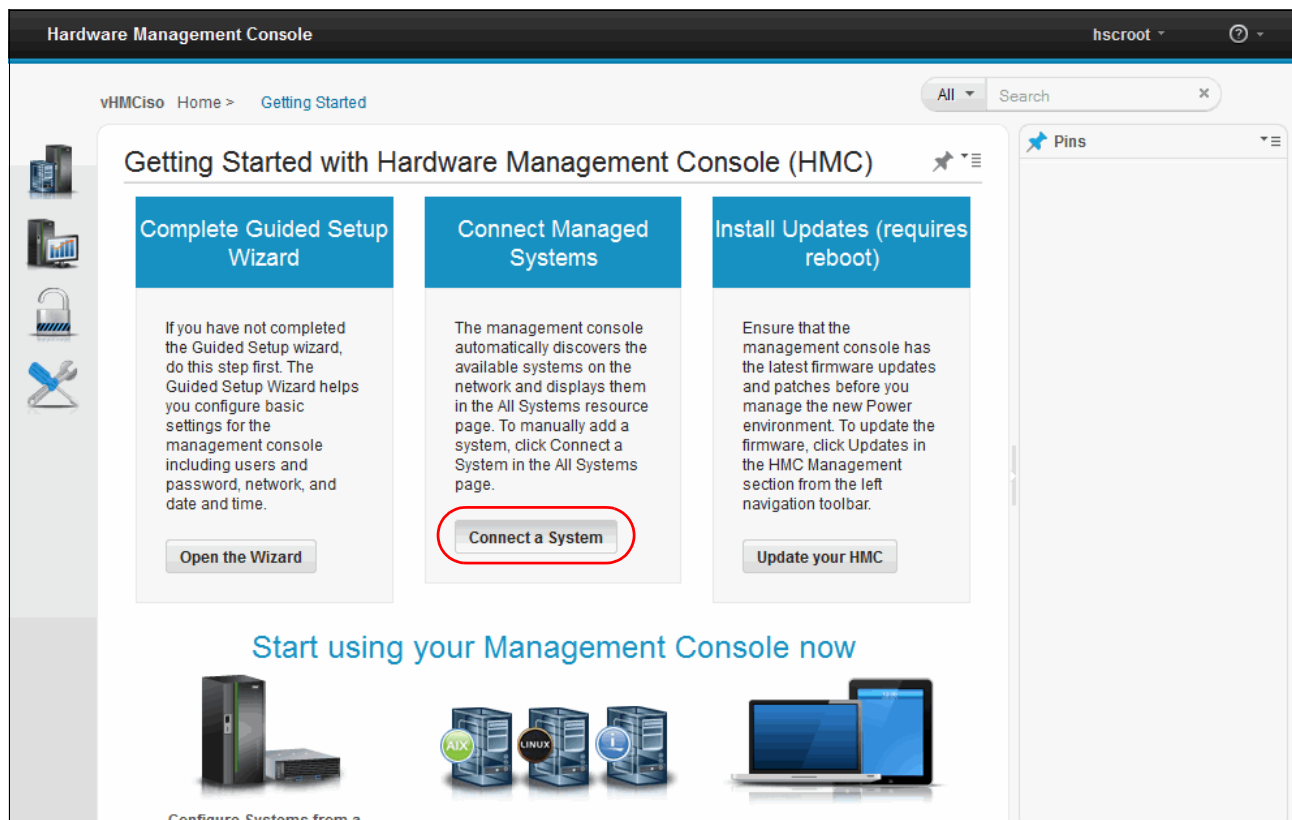

Figure 5-54 Connect a System
- From the initial Getting Started panel (Figure 5-54), click **Connect a System**.